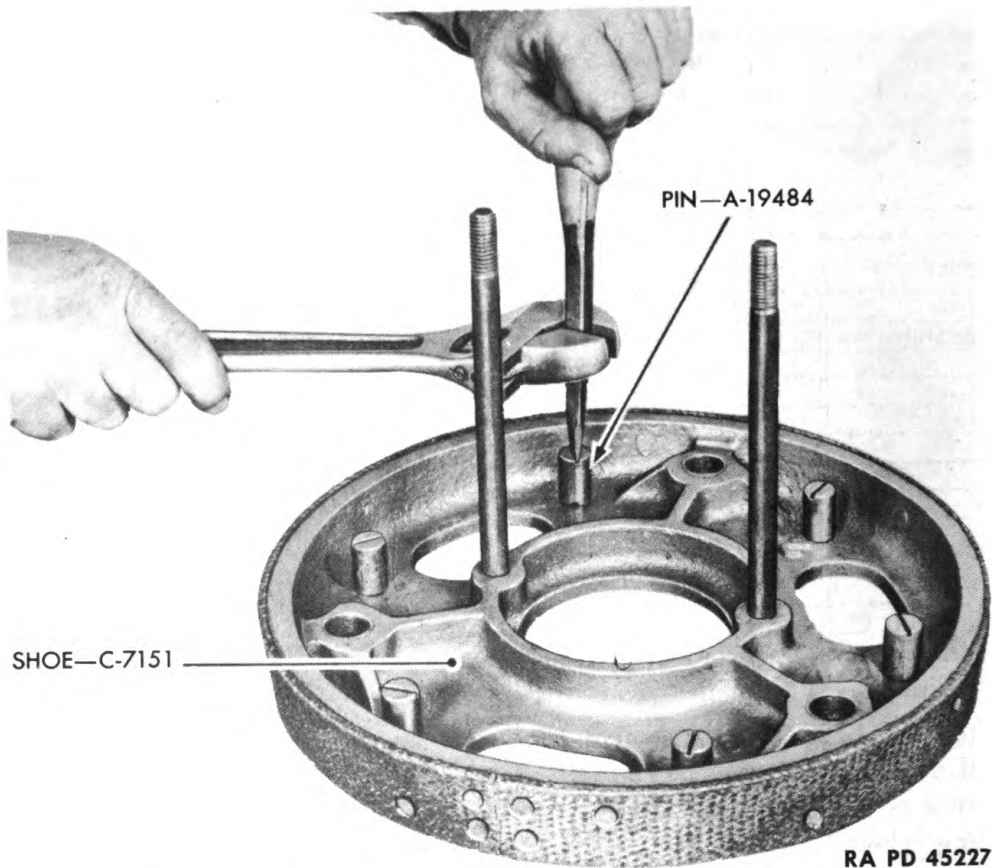

Figure 190—Removing Pin from Elevating Clutch Shoe
(1) Tighten all loose spring guide pins A19484. Replace damaged pins (fig. 190). Coat new pin threads with COMPOUND, rust-preventive, light.